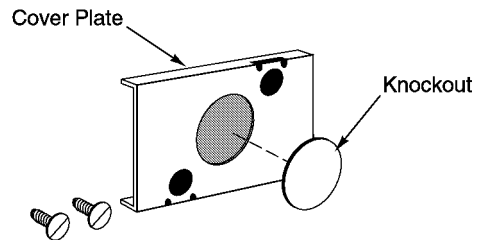
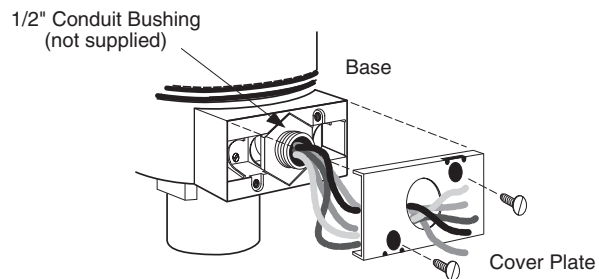
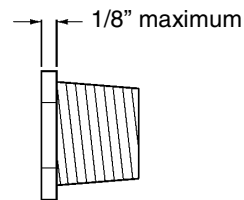

Figure-9 Cover Plate Knockout Removal.
Figure-10 Conduit Bushing and Cover Plate Installation.
Figure-11 1/2" Conduit Bushing.
1. Remove the knockout from the cover plate supplied with the actuator. Refer to Figure-9.
2. Slip the leads through a standard 1/2" conduit bushing (not supplied) and the knockout hole in the cover plate. Refer to Figure-10 and Figure-11.
2. Slip the leads through a standard 1/2" conduit bushing (not supplied) and the knockout hole in the cover plate. Refer to Figure-9 and Figure-10.
Note: As shown in Figure-10, the hole in the cover plate of the actuator conduit housing is sized to accept both British standard M20 (20 mm) conduit connectors and 20 mm-to-PG16 adaptors for use with DIN PG16 connectors. (Follow the steps for installing the conduit box to the actuator.)